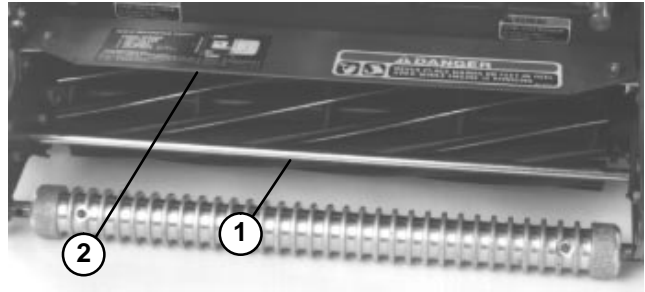

Figure 16
2. Measure distance from the top of the front support rod to the front lip of the shield at each end of cutting unit (Fig. 16).